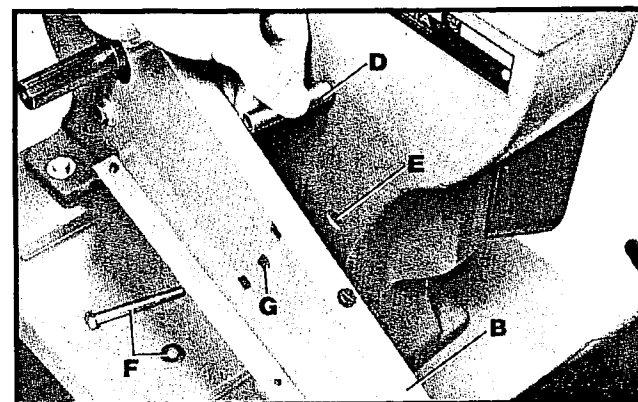

Fig. 11
3. Place the spacer (D) Fig. 11, into the countersunk hole (E) located behind the belt and pulley guard (B). Then insert the 2-3/4 inch hex head cap screw with flat washer (F) into the center hole (G), through the spacer (D) and thread it into the tapped hole (E).